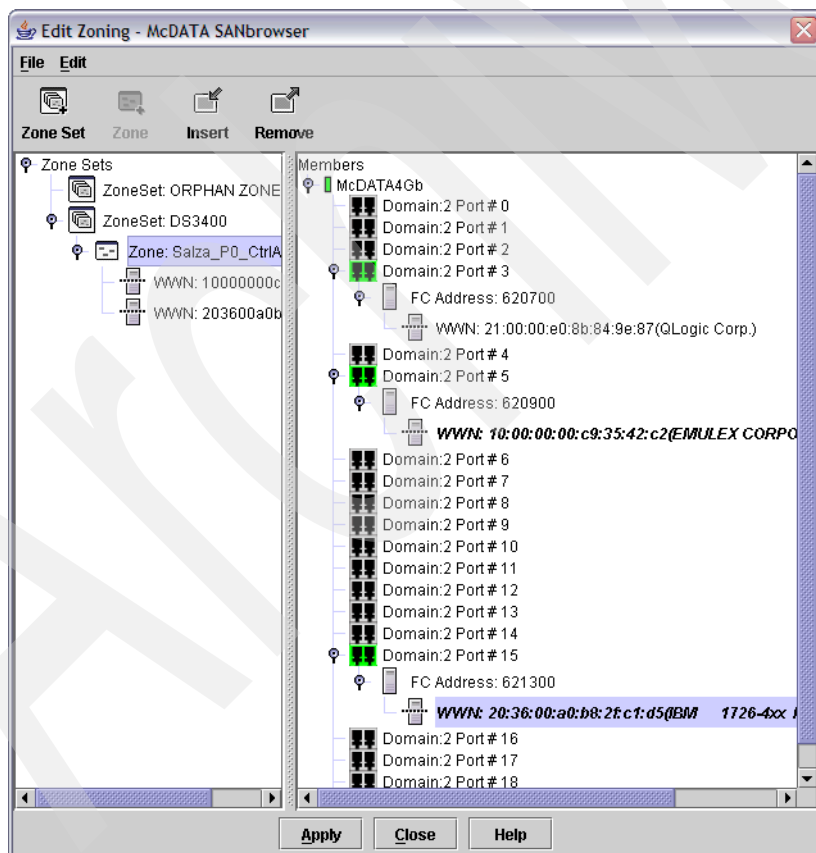

Figure 24-9 Members added to zone
6. After adding the zone members, the view should look similar to Figure 24-9.